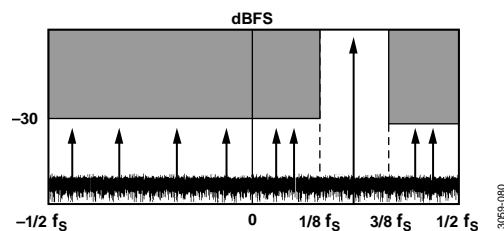
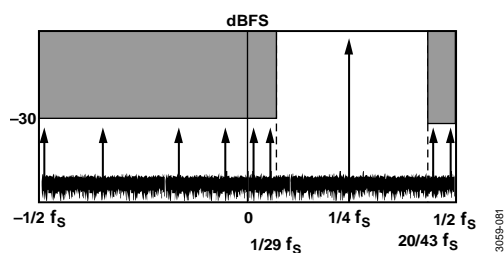

Figure 82. 25% VDR Bandwidth, Complex Mode
Figure 83. 43% VDR Bandwidth, Complex Mode
The complex mode of VDR works with selectable bandwidths of 25% of the sample rate (50% of the Nyquist band) and 43% of the sample rate (86% of the Nyquist band). Figure 82 and Figure 83 show the frequency zones for VDR in the complex mode. When operating VDR in complex mode, place in-phase (I) input signal data in Channel A and place quadrature (Q) signal data in Channel B.
Figure 82 shows the frequency zones for the 25% bandwidth VDR mode with a center frequency of $f_s/4$ (tuning word = 0x04). The frequency zones where the amplitude may not exceed -30 dBFS are the upper and lower portions of the Nyquist band extending into the complex domain.
Table 33 and Table 34 show the tuning words and frequency values for the 43% complex mode. Table 33 shows the relative frequency values, and Table 34 shows the absolute frequency values based on a sample rate of 491.52 MSPS. Figure 83 shows the frequency zones for the 43% BW VDR mode with a center frequency (f_{VDR}) of $f_s/4$ (tuning word = 0x04). The frequency zones where the amplitude may not exceed -30 dBFS are the upper and lower portions of the Nyquist band extending into the complex domain.